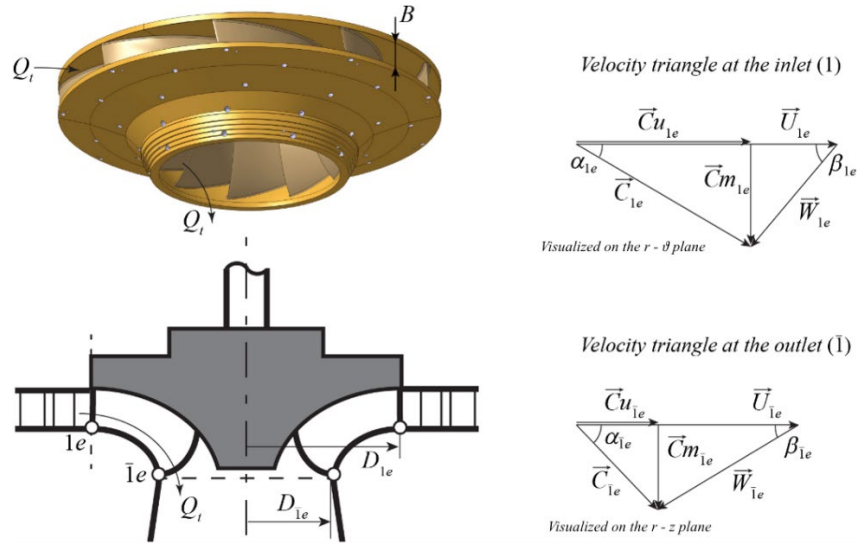

Figure 3: Velocity triangle of the pump-turbine in turbine mode
For the calculation of the transformed specific energy E_t , the velocity triangle representing the relationship of the discharge velocity with the turbine rotational velocity and the Euler equation play a decisive role. The schematics of the pump-turbine and an example of the velocity triangle are shown in Figure 3. In this section, we set the values of k_{Cu1e} and $k_{Cu\bar{1}e}$ such that $k_{Cu1e} = 1$ and
- 9) Referring to the vectorial relationship in Figure 3, deduce the scalar form of the Euler equation using the necessary variables among Cu_{1e} , Cm_{1e} , U_{1e} , $Cu_{\bar{1}e}$, $Cm_{\bar{1}e}$, and $U_{\bar{1}e}$.